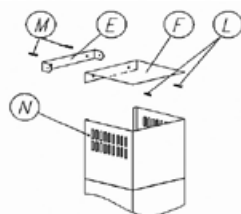

Fig. 5
7. Measure and mark a 16 mm distance under the marked maximum height of the upper chimney cover. Drill holes at this height, and fix the wall holder of the upper chimney cover (E). If necessary use the upper cover (F), Fig. 5.